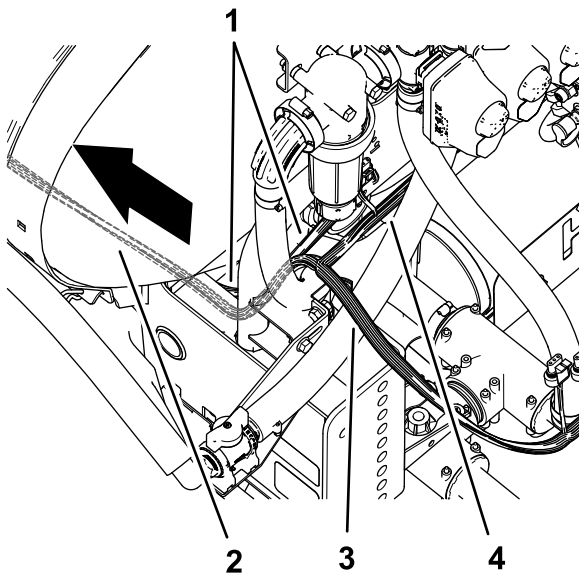

Figure 79
2. Route the 84 cm (33 inch), 60 cm (23-1/2 inch), and 66 cm (26 inch) wire-harness branches of the kit wire harness to the left side of the machine along the machine wire harness (Figure 78 and Figure 79).